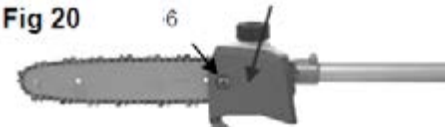

Fig 20
- Fit the chain tensioner into the lower hole of the guide bar, then install the chain cover, and fasten the mounting nut to finger tightness Fig 20.